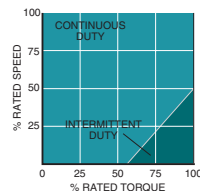

FIGURE 13. TYPICAL STANDARD AC MOTORS ADJUSTABLE SPEED OPERATION
- The motor thermal capacity must typically be derated as a function of the minimum, continuous operating speed in accord with Figure 13, due to the reduced ventilation provided by the integral motor fan. Where the application requires 100% rated torque at speeds below 50% of synchronous speed, a separately powered ventilation blower, a nonventilated motor with greater reserve thermal capacity or, a motor with higher rated capacity should be used. When a separately powered ventilation blower is used, a thermostat should be built into the motor to prevent damage which may result from a failure in the ventilation system.